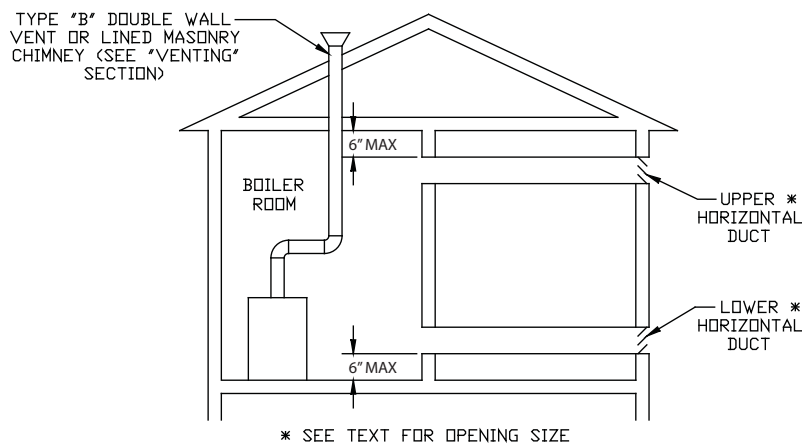

Figure 6-5: Outdoor Combustion Air Method: Using Horizontal Ducts into Boiler Room
- B. Openings to outdoors via horizontal ducts (Figure 6-5) - Each opening must have a free cross sectional area of 1 square inch per 2,000 BTU/hr of the total input of all gas fired